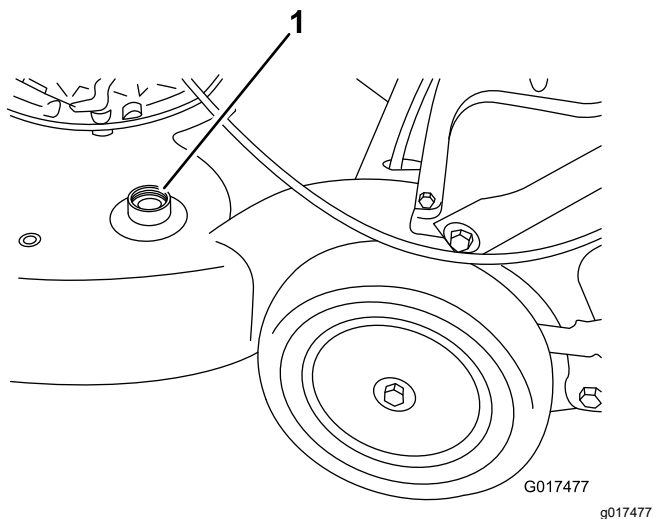

Figure 33
4. Attach a garden hose that is connected to a water supply to the washout port on the machine (Figure 33).